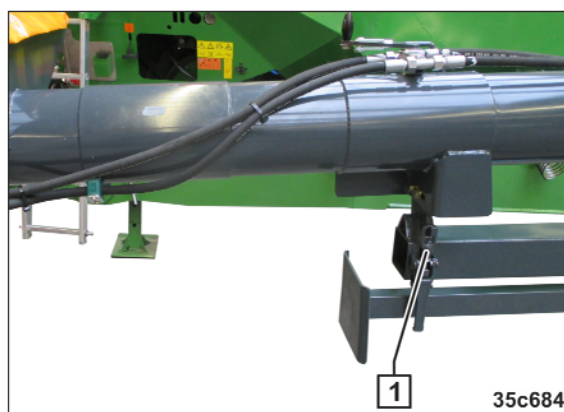

Fig. 214
3. Release the (Fig. 214/1) locking mechanism.
16. Swivel the filling auger over the frame and lock it (see Fig. 214/1).